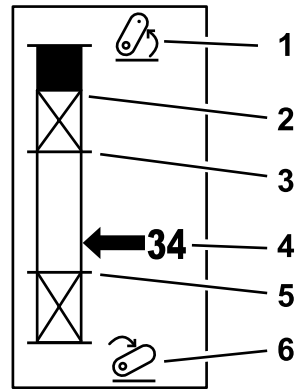

Figure 2
- Ensure that an attachment's maximum lift parameters are set correctly in the InfoCenter (Figure 2); refer to the *Software Guide* . Select the correct attachment prior to machine operation and do not deviate from this setting until the attachment is removed.